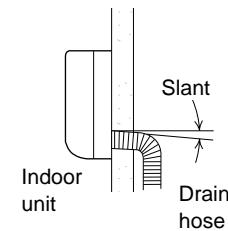

Fig. 30
- a) The drain hose should be slanted downward to the outdoors. (Fig. 30)